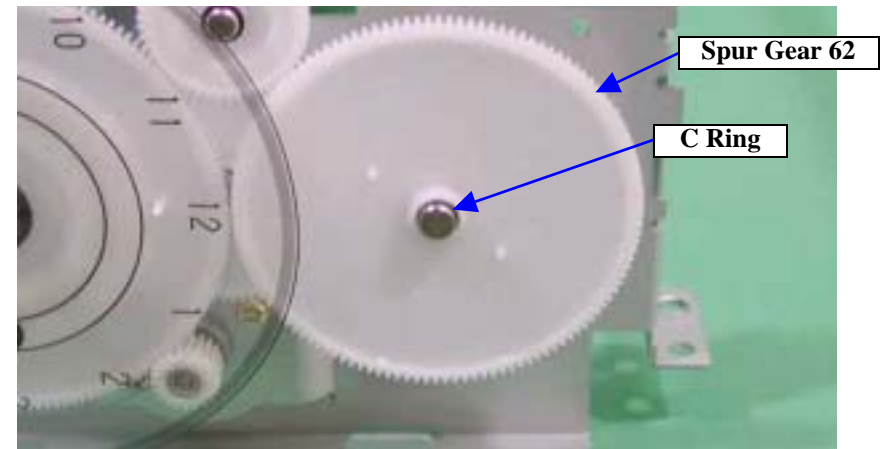

Figure 4-53. Removing the Spur Gear 62
- When removing the C Ring, fully take care not to lose it. Refer to Figure 4-53, "Removing the Spur Gear 62".
- Since the Spur Gear 62 is a precision gear, change it for a new one once it has been removed. Refer to Figure 4-53, "Removing the Spur Gear 62".
- When reinstalling the Spur Gear 62 to the Paper Eject Roller B, hold the center of the Spur Gear 62 and carefully mount it to the Paper Eject Roller B. If you hold the periphery of the Spur Gear 62 when mounting, it will deform and the paper loading accuracy will reduce. Refer to Figure 4-53, "Removing the Spur Gear 62".